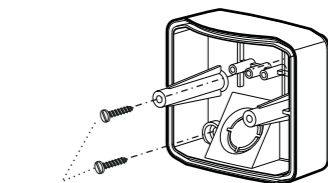

FIG.6
- 3.4.1 Fasten the box base rigidly to the selected mounting surface (Wall or Ceiling) with the cable entry hole facing downward (See FIG.6).